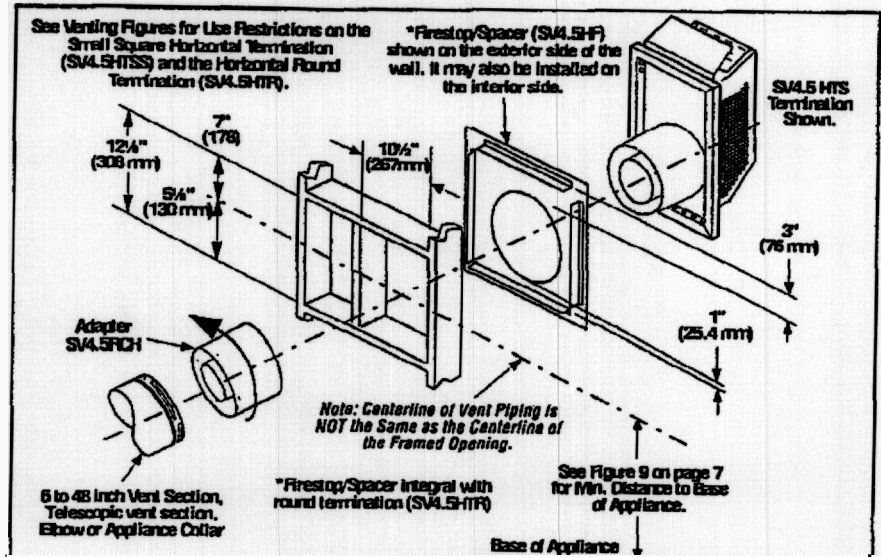

Figure 33 Installing the Square Horizontal Termination (SV4.5HTS), Small Square Horizontal Termination (SV4.5HTSS) or Round Horizontal Termination (SV4.5HTR).
If the terminus of the last section is not within this distance, use the telescopic vent section SV4.5LA, as the last vent section. For wall thicknesses greater than that shown in Figure 33, refer to table 4 on page 77. This table lists the additional venting components needed (in addition to the termination and adapter) for a particular range of wall thicknesses.
K. Attach termination adapter - Attach the adapter (adapter - SV4.5RCH - provided with the termination) to the vent section or telescoping vent section), elbow or appliance collar as shown in Figure 33 in the same manner as any SV4.5 vent component (refer to Step E).
L. Install Firestop/Spacer at exterior wall - When using the square termination, install SV4.5HF (Secure Vent), SF4.5HF (SecureFlex) Firestop/Spacer over the opening at the exterior side of the framing, long side up, with the 3 inch spacer clearance at the top as shown in figure 33, and nail into place.